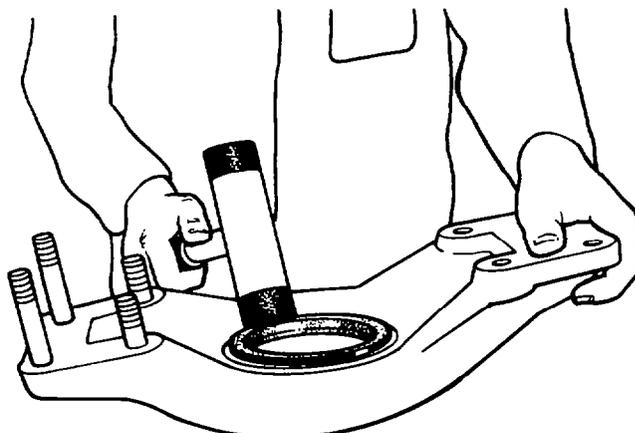

Fig. 373 — Fitting Oil Seal
- n. Coat the outer edge of the oil seal with Permatex then fit the oil seal into position in the yoke; if necessary use a nylon headed hammer to tap around the edges of the seal until it is fully home (see fig. 373).